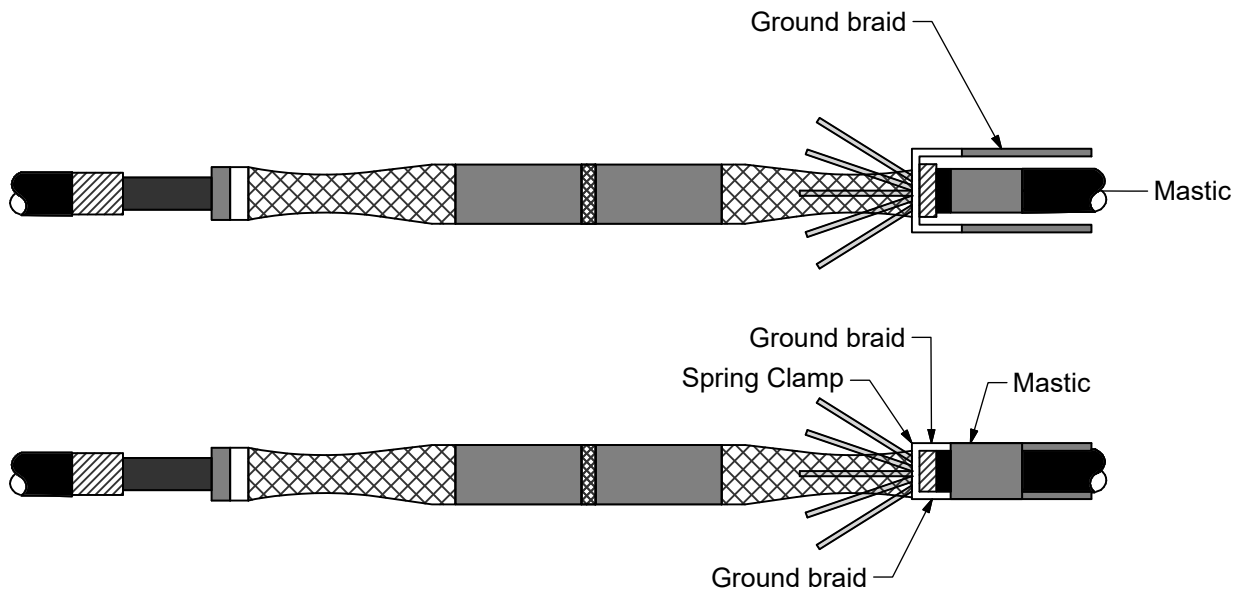

Figure 9
- H. Connect the other end of the mesh sock as detailed in Step 7. See Figure 9.